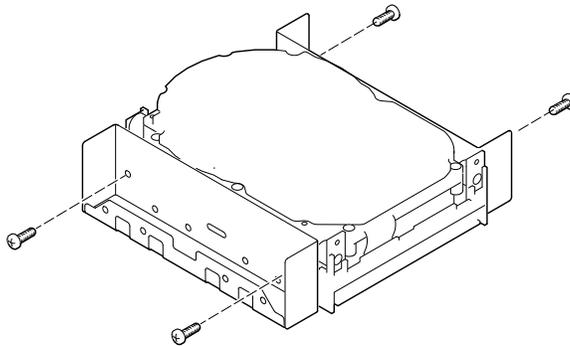

Figure 4-10. Exchange Bracket Mounting
5. If you are installing a 3.5-inch device, add the 3.5- to 5.25-inch expansion brackets, as Figure 4-10 shows. Fasten the drive with the screws provided.